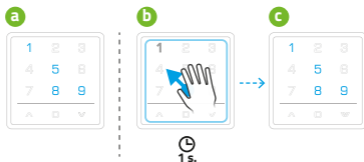

Fig. 9.3
3. Activation by waving your hand to the field on the remote control screen. This mode is only possible with the active control motions. In this mode, the channels will be activated on the display that have been managed in the last session before going to stand-by. The remote control is expected to order for these channels or select more channels - Fig. 9.3.